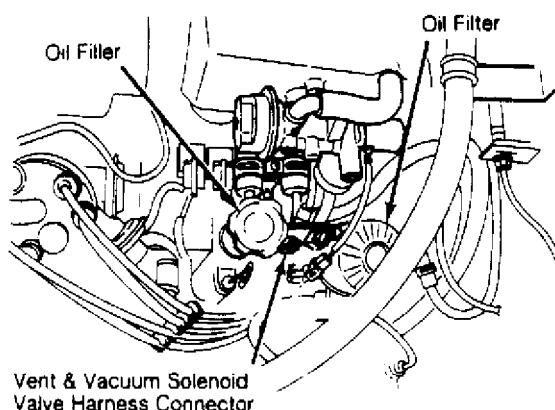

Fig. 4: Vent and Vacuum Solenoid Harness Connector
2) Check and adjust throttle sensor before adjusting idle speed. Disconnect vent and vacuum solenoid harness connector located near oil filler hole. See Fig. 4.
2) Switch off all accessories. Remove fuel filler cap and connect tachometer to engine. Warm engine to operating temperature. Check and adjust throttle sensor as required. Disconnect vent and vacuum solenoid valve harness connector. See Fig. 4.